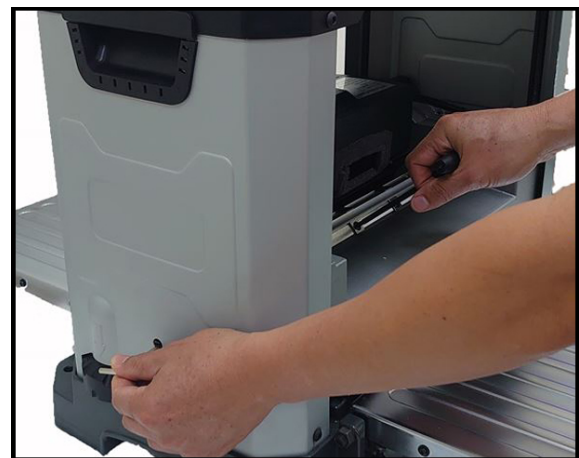

Figure 7
3. Insert the supplied Hex wrench through the hole located on the side of the machine beside the Repeat Cut indicator. Rotate the cutterhead to a position where a cutter tip is visible. See FIG. 7. (You may have to raise or lower